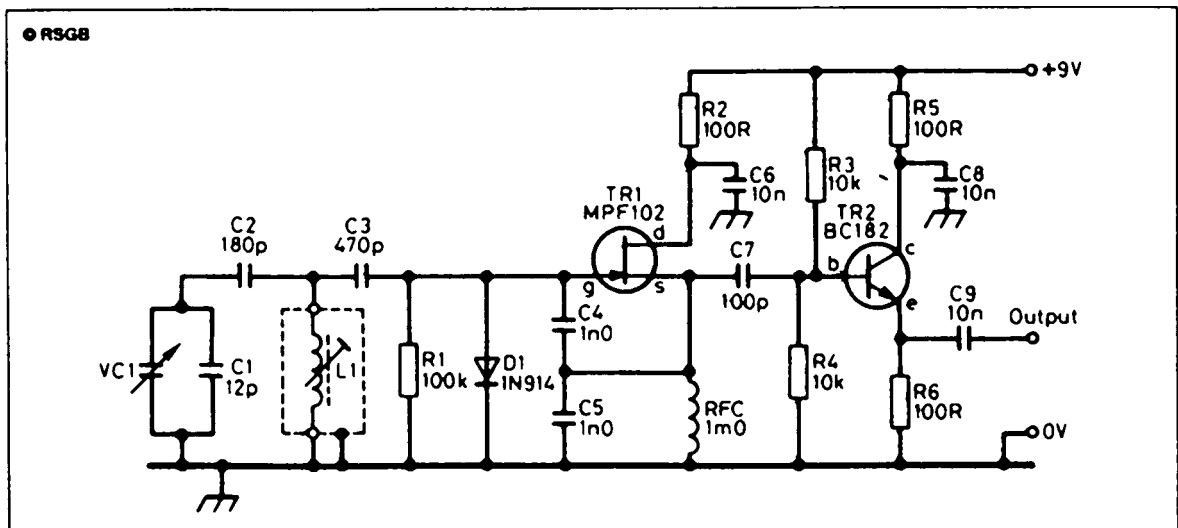

Figure 2 The variable-frequency oscillator uses a field-effect transistor (FET)
Figure 2 shows the circuit of the VFO. It is a tried and tested circuit, and should work first time. It uses a *field-effect transistor* (FET) for TR1, the oscillator itself. RFC is a *radio-frequency choke*, a coil of wire which will pass a direct current (DC) but which will prevent radio-frequency (RF) signals getting through.